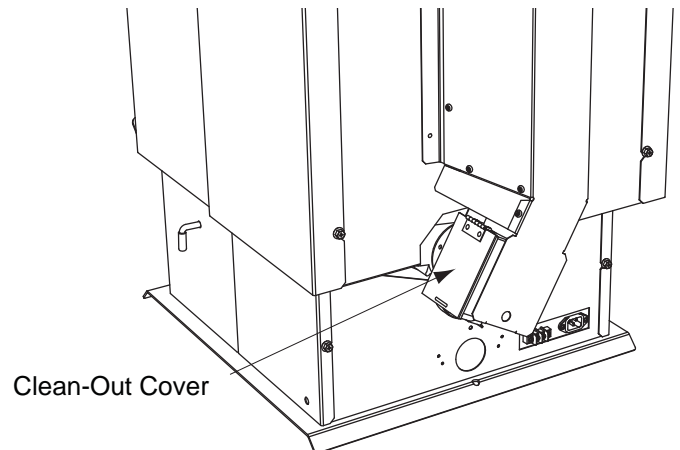

Figure 16.1
- b. Open the clean-out cover. **Figure 16.1**.